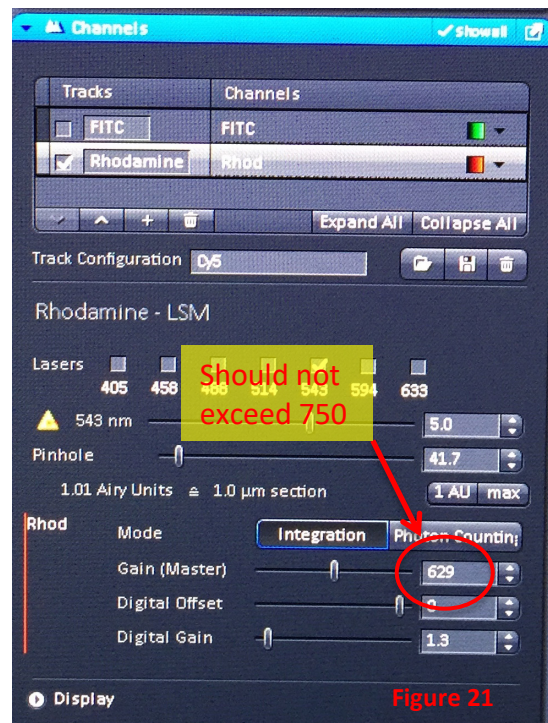

Figure 21
- b. In the Channels window, Master Gain is used to adjust the intensity of the image. You never want the Master Gain to go above **750** (figure 21). If you have the gain set at 750 and the image is still not bright enough, you have several choices: